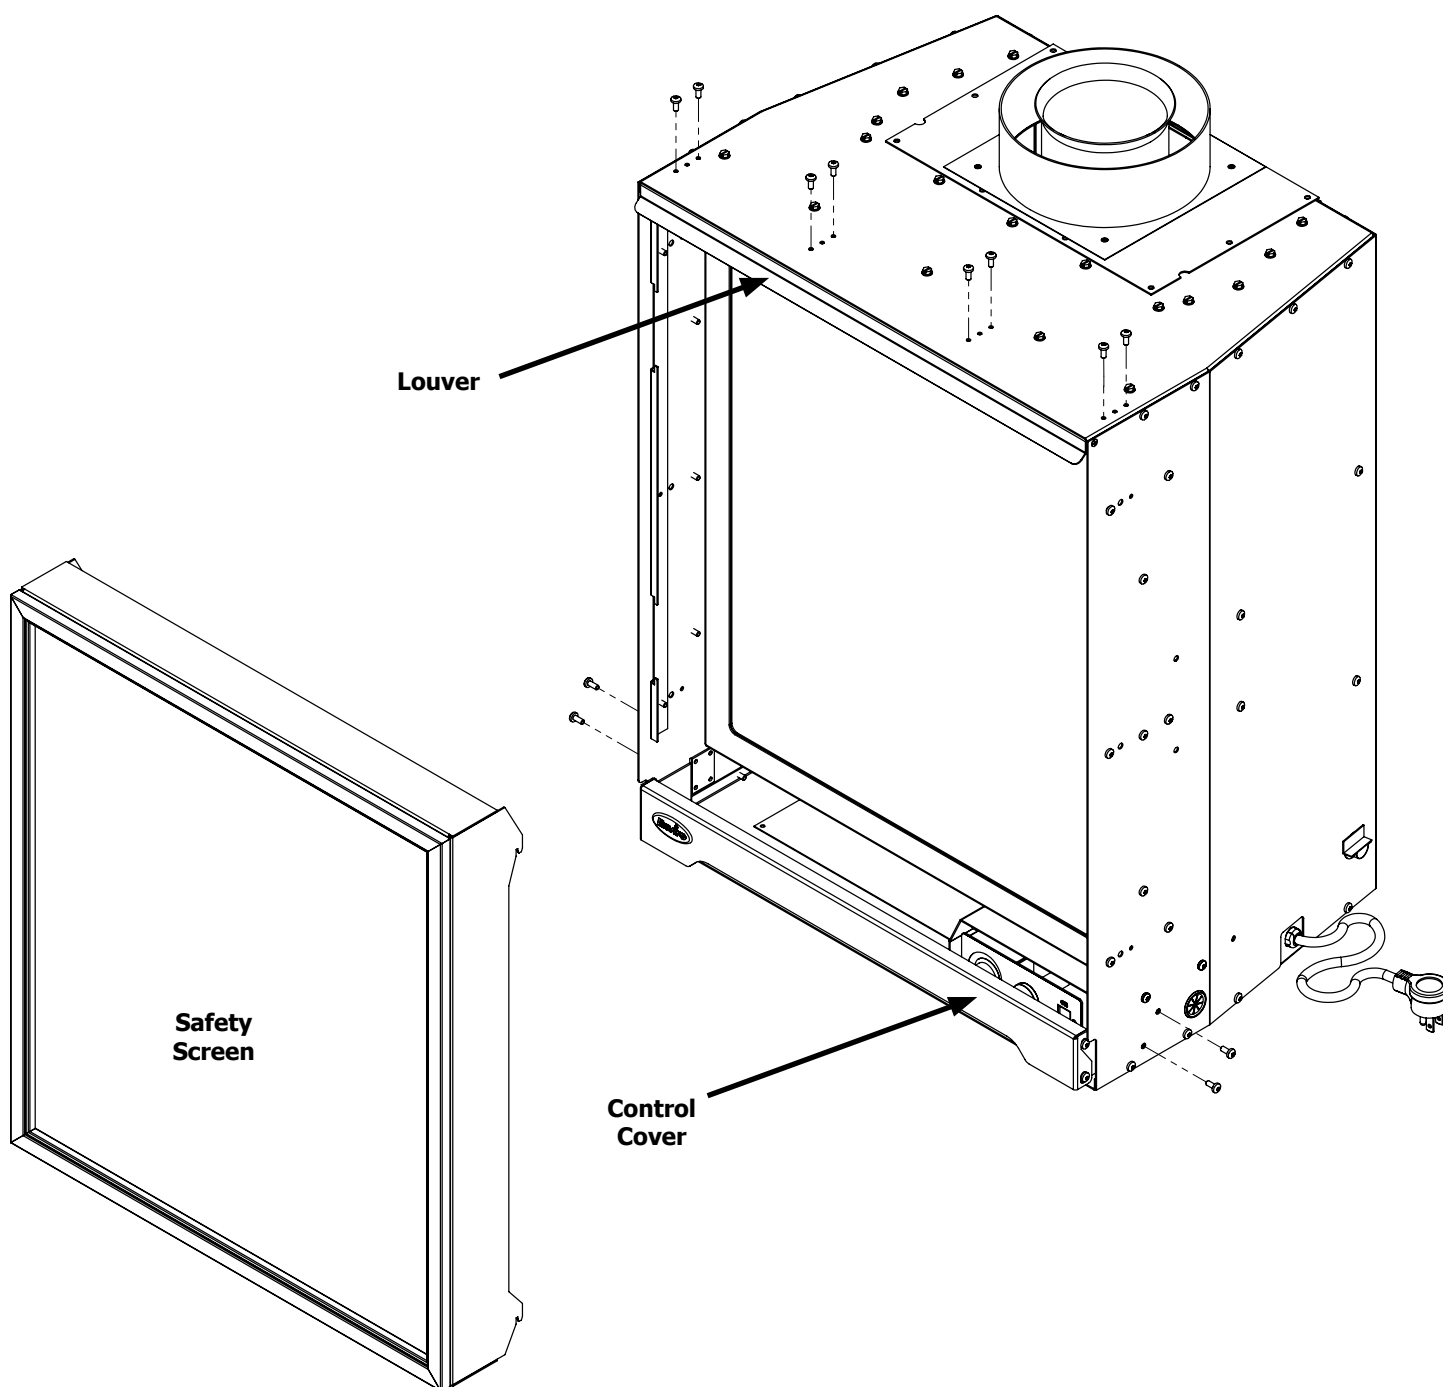

Figure 28. Surround Panel Install.
2. Use a T20 screwdriver to remove the two (2) screws on each side of the Control Cover as shown in Figure 28.
3. Use the same screw driver to remove the eight (8) T20 screws that hold the Louver to the top of the cabinet.